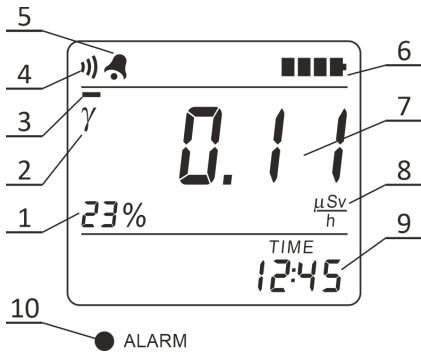

Figure 2.1 – LCD of the radiometer
Irrespective of the chosen operating mode, the radiometer carries out a non-stop control of batteries status. The results of control are displayed on the LCD with a battery status symbol  (6) (Figure 2.1), which consists of four segments.
2.3.3.6.5 The following information is displayed on the LCD of the radiometer (Figure 2.1):
- estimated limit of the expected relative statistical deviations (1) of the measurement result (7) with a confidence probability of 0.95, hereinafter - the estimated limit of statistical deviations;
- "γ" symbol (2) – an indication of the measured radiation type;
- instantaneous value indicator of the radiation intensity (3);
- sound symbol (4) (if audio signaling of registered gamma quanta is switched on);
- alarm clock symbol (5) (if the alarm clock is on);
- battery status symbol (6);
- measurement result (7);
- dimension of measurement result (8)  $\mu\text{Sv}$ ,  $\text{mSv}$  or  $\text{cps}$ ;
- current time (9).
2.3.3.6.7 If the DER measurement results exceed the alarm threshold level, the radiometer sends a two-tone sound signal and starts blinking with the red ALARM LED (10). Measurement results start blinking on the LCD of the radiometer. Periodic and gradual (from left to right) highlighting of the sound symbol segments (4) serves as an indication of the threshold level exceeding as well (Figure 2.1).